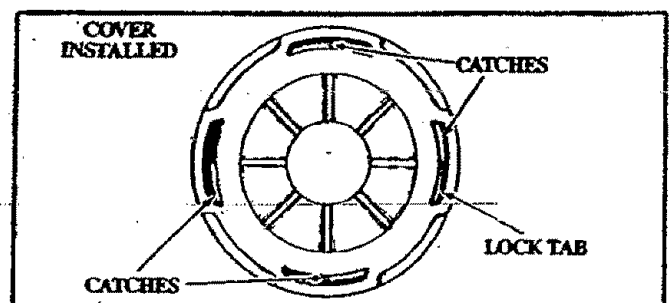

Figure 22
- Check to make sure all four Catches and the Lock Tab are properly fastened as shown in Figure 22, then test the Cover by trying to turn it counterclockwise.